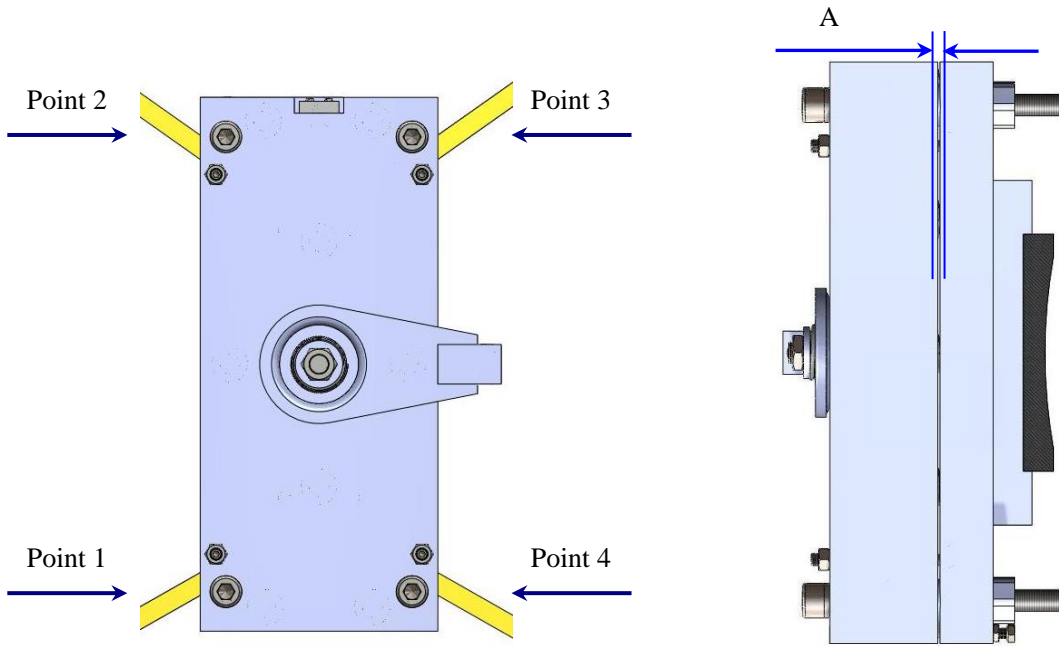

Figure 5: Brake Stroke Adjustment Points
2. Check the gap “A” (brake stroke) at points 1, 2, 3, and 4 with the feeler gauge. Maximum Gap “A” after wear should be $< 0.4\text{mm}$ (0.016”), otherwise the gap must be readjusted. See Figures 5 and 6.